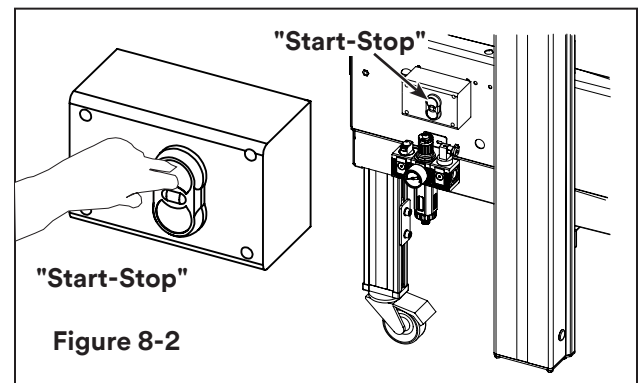

Figure 8-2
- The Push Button Station "Start" is pressed (Figure 8-2)